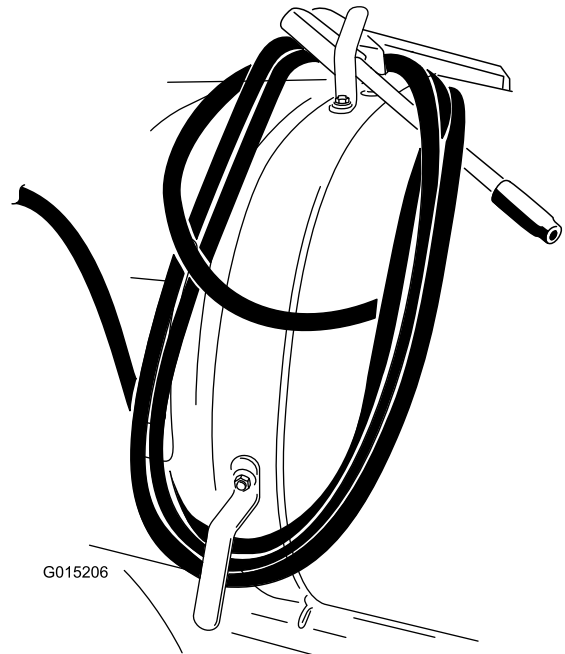

Figure 14
4. Wrap the hose around the hooks of the tank and secure the gun as shown in Figure 14.